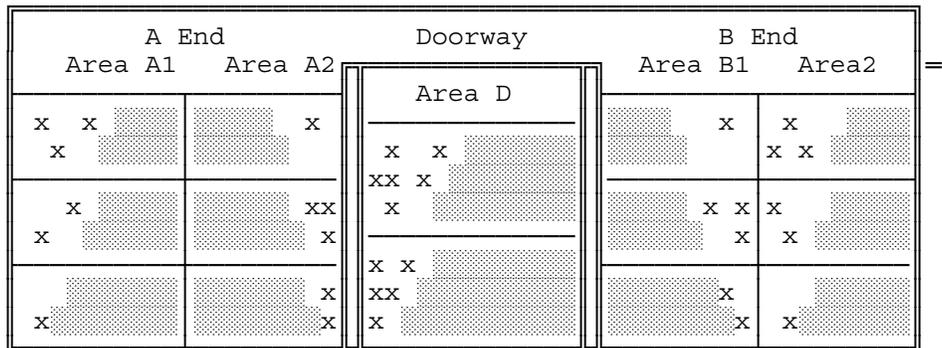

Figure 2. Side View of a Railcar with Three Wells,
- (2) Six bags must be randomly selected from each of the areas identified as A1, A2, B1, and B2. Ten bags must be selected from area D. If the car is not loaded uniformly (e.g., area D is loaded six bags high, while areas A and B are loaded twelve bags high), select more bags from the areas containing more bags and less from those containing less, but always select at least 34 bags, total.
- (3) Determine the locations where the wells must be dug so that the proper number of bags may be sampled from each section. (Whenever possible, limit the number of wells that must be dug to three, but dig the wells as deep as possible.) See figure 2.